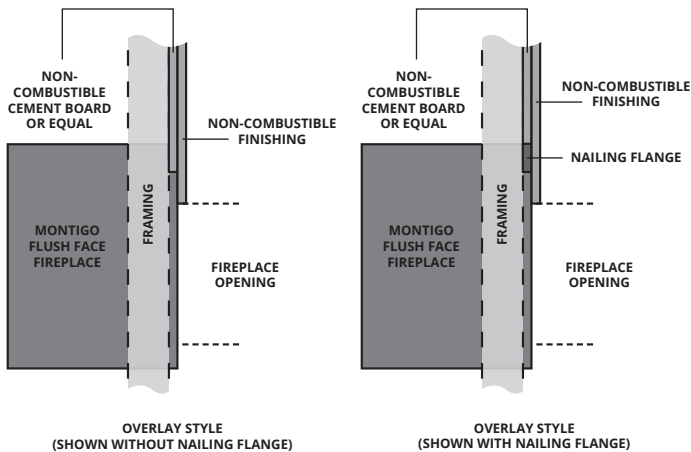

FIGURE 1. OVERLAY STYLE
- The Overlay sheathing style (Figure 1). allows you to bring ONLY NON-COMBUSTIBLE MATERIALS all the way down to the top of the fireplace opening. No material of any kind may extend beyond the top of the fireplace opening.